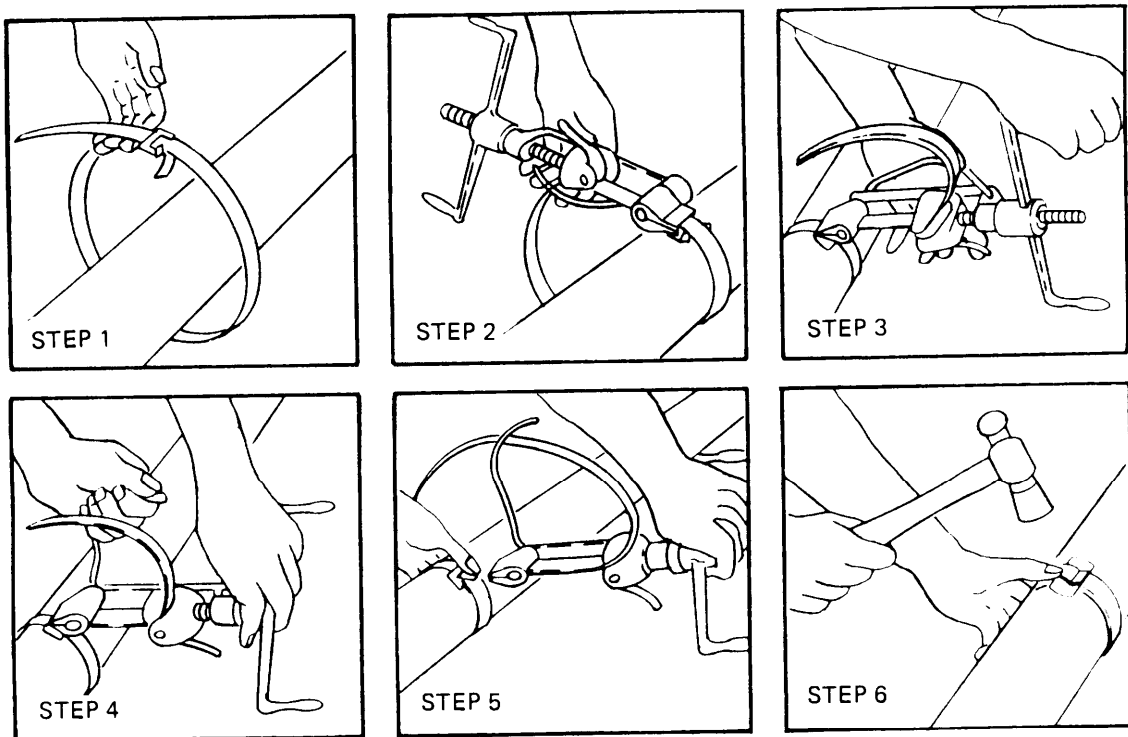

Figure 4-1. Hose Assembly Repair Using Clamping Tool C001.
- (1) Cut the hose clamps and remove them from the hose.
- (2) Remove the couplings from the hose. Remove gasket from inside the female coupling.
- (3) Remove damaged section of hose. Ensure static wire extends 1/4 inch.
- (4) Using clamping tool, P/N C001 (70847), perform the following procedure (figure 4-1):